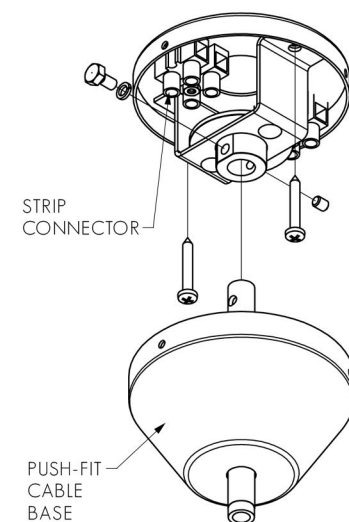

FIG. 5 - ENSURE SUSPENSION RODS ARE TIGHTLY SECURED
4. LIFT LIGHT ASSEMBLY AND INSERT SUSPENSION RODS INTO CEILING BRACKETS, STARTING WITH THE POWER SUPPLY END. LOCK IN TO PLACE BY TIGHTENING GRUB SCREW ON ONE SIDE AND HEX HEAD SCREW ON OTHER SIDE, ENSURING HEX HEAD SCREW FITS THROUGH 4MMØ HOLE IN SUSPENSION ROD (SEE FIG. 5)